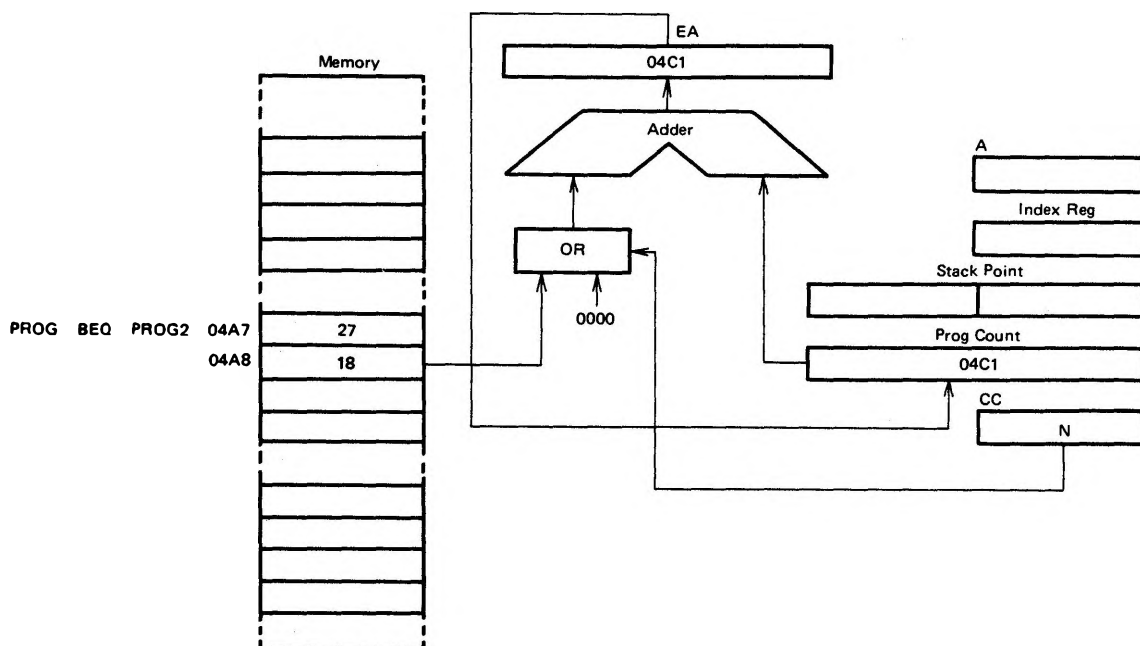

Figure 20 Relative Addressing Example
Refer to Figure 20. The relative addressing mode applies only to the branch instructions. In this mode the contents of the byte following the opcode is added to the program counter when the branch is taken.  $EA = (PC) + 2 + Rel$ . Rel is the contents of the location following the instruction opcode with bit 7 being the sign bit. If the branch is not taken  $Rel = 0$ , when a branch takes place, the program goes to somewhere within the range of +129 bytes to -127 of the present instruction. These instructions are two bytes long.